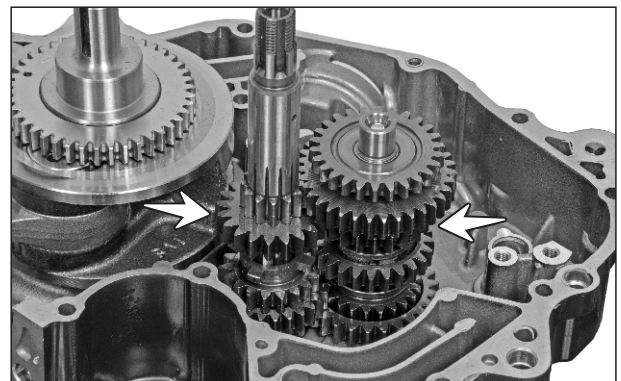

Fig. 3.150
- Take out drive shaft assembly and the counter (clutch) shaft assembly along with the gears as a set. (Fig. 3.150)